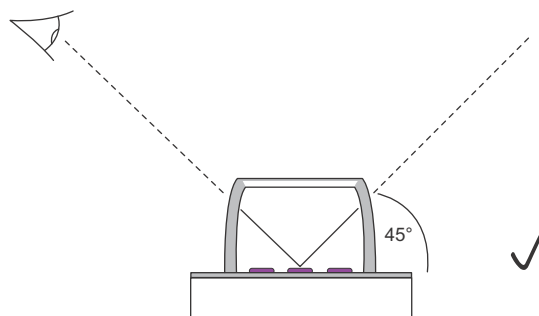

Figure 2 PIN Entry Privacy Shield
- You can secure PIN entry by installing a privacy shield (Figure 2).